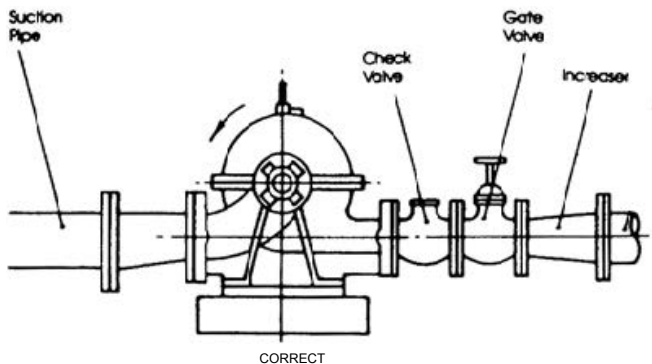

FIG.5
1.10 Suction and Discharge Piping (See Fig. 5 & 6)